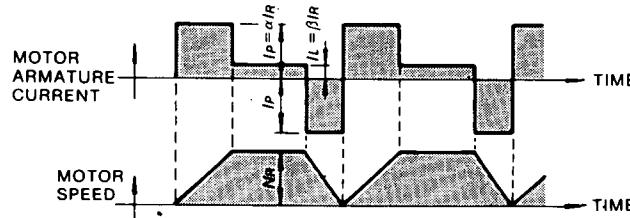

Fig. 4.5 Timing Chart of
- When the motor accelerates, runs at constant speed, and decelerates in a continuing cycle without being at standstill (Fig. 4.5).
The timing chart of the motor armature current and speed is as shown in Fig. 4.5. The allowable frequency of operation "n" can be calculated as follows.